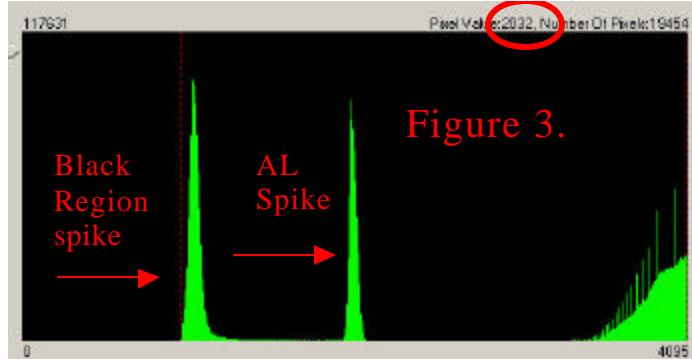

Figure 3.
- Check the value of the “aluminum plate” spike on the histogram.(figure 3)